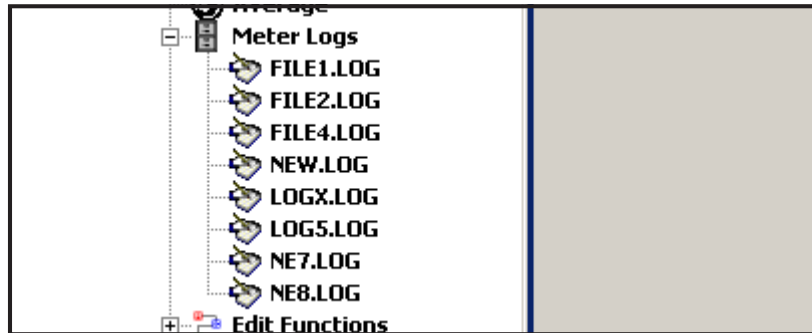

Figure 19: Expanded Meter Logs Option
1. From the *New Meter Browser* in PanaView, expand the network tree and click on the *Meter Logs* option. If you have created one or more logs, the tree will appear similar to *Figure 19* below.